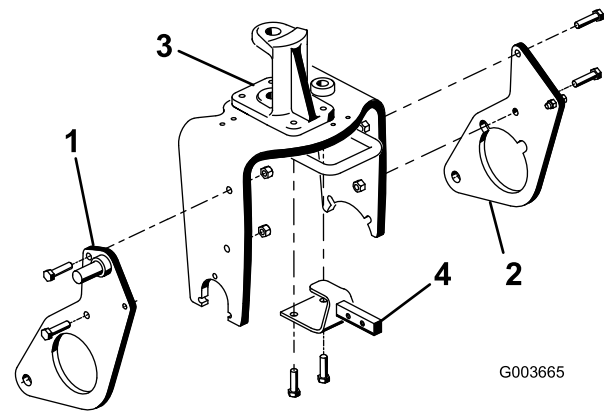

Figure 11
- Loosely mount the right hand plow plate to the right side of the caster fork with 2 bolts (1/2 x 2 inches) and locknuts as shown in Figure 11.
- Repeat the procedure with the left hand plow plate (Figure 11).
- Remove and discard the 2 bolts securing the front of the steering pivot to the top of the caster fork (Figure 11).
- Using the caster fork and steering pivot mounting holes, mount the hitch frame bracket to the underside of the caster fork with 2 bolts (1/2 x 1-3/4 inches); refer to Figure 11.